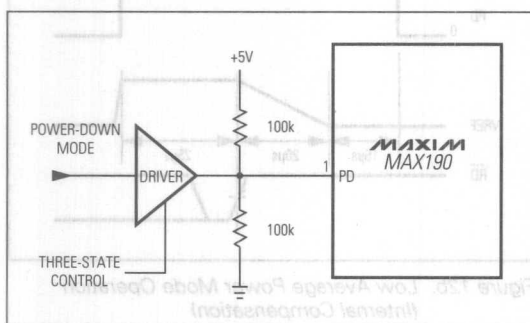

Figure 11. Drive Circuit for PD Pin
In some battery-powered systems, it is desirable to power down or to remove power from the ADC during inactive periods. To power down the MAX190, Power Down (PD) should be set to low. In this mode, all internal ADC circuitry is off except the reference circuit, which consumes less than 50 μ A (assuming all signals CS, RD, CLK, and HBEN are static and within 200mV of the supplies). To initialize the MAX190 at power up, perform one read operation with HBEN low and disregard the data outputs. Figure 11 shows a practical way to drive the PD pin.